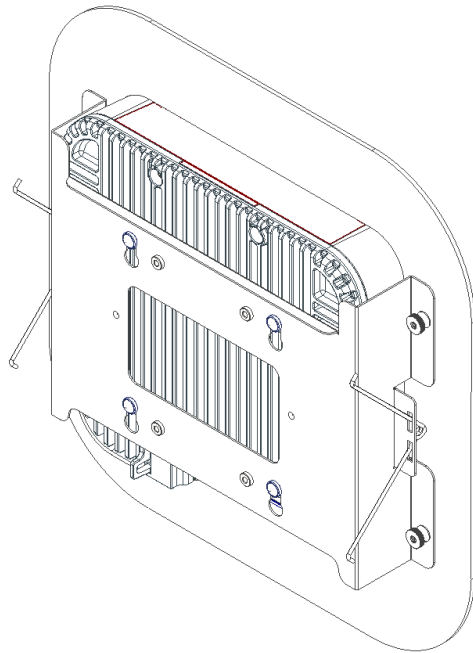

Figure 7 - Install Access Point
Step 7 - Reassemble the trim by attaching the trim piece which was previously removed by inserting the studs into the slotted holes and installing the thumb nuts as shown in Figure 7.